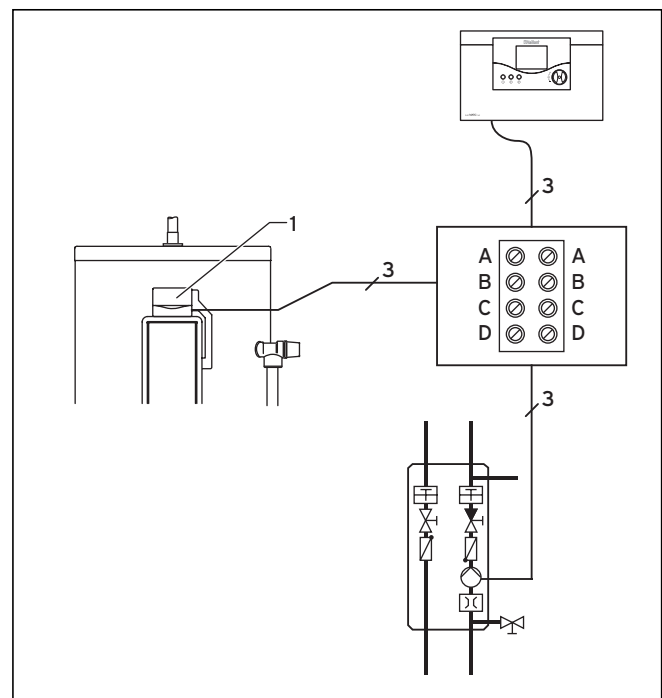

Fig. 5.33 Connection diagram of the solar pump TCO
- Connection of the solar pump to the solar control via its own thermal cut out (see Fig. 5.33)